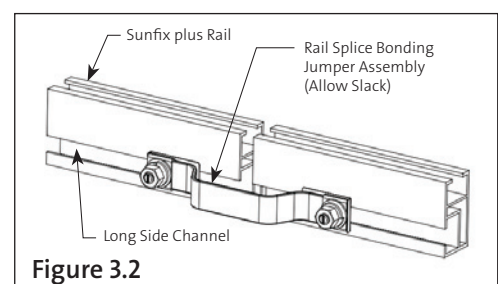

Figure 3.2
- 3.2. For rail-to-rail electrical continuity (bonding), a Rail Splice Bonding Jumper Assembly ⑦ is used. To install, insert assembly's T-bolts into the channel on the long side of rail and secure, similar to Steps 2.1 and 2.2. Be sure to allow slack in jumper to allow for thermal expansion. Refer to **Figure 3.2**. Tighten to 12 ft-lbs using general purpose anti-seize compound.